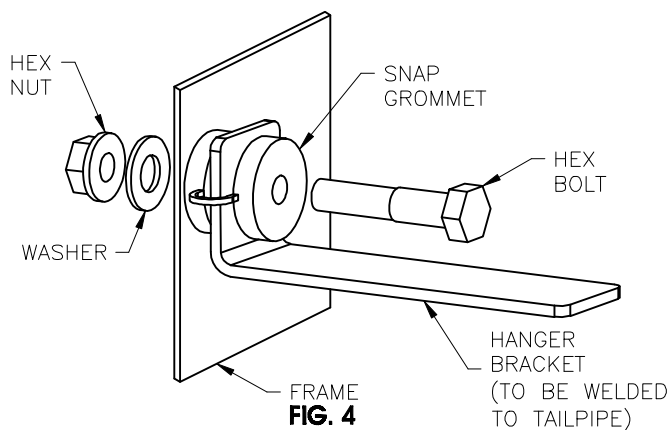

FIG. 4
Step 2: Begin installation of the new system by fitting the new mufflers, tailpipes and Tru-X crossover assembly into place for a mock-up fitment. This will help to determine where to drill the frame or floorboards for the muffler and tailpipe mounting brackets as shown in Figures 1 & 2, if the OEM mounting points will not work. Sheet-metal screws are supplied to be used in place of the hex-head bolts if required. Use a 1/2" drill bit for the bolt/nut combo, or use a 5/16" drill bit for the tri-lobular sheet metal screws. You should now also be able to determine where to trim and or modify the inlet extension pipes if needed. With the system loosely installed, adjust the components for at least 1/2" clearance, including areas with moving parts (axles, driveshaft, etc.). Once a proper fit has been achieved using the supplied clamps, the inlet pipes can be welded to the manifold / header flanges. Once the tailpipe brackets are bolted in place as shown in Figure 4, they can be bent and welded to the tailpipes. The supplied turndown tips are to be welded to the tailpipes and dump behind the bumper.